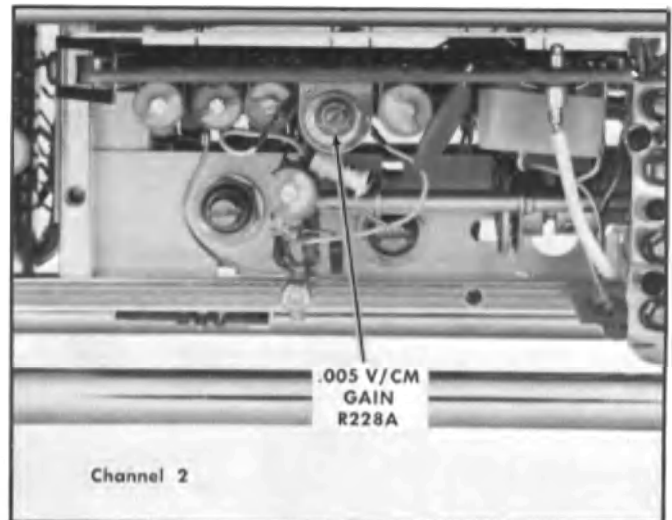

Fig. 7-12. Location of Channel 2 .005 V/CM GAIN adjustment.
e. ADJUST—Channel 2 .005 V/CM GAIN control (see Fig. 7-12) to obtain a display of correct amplitude.